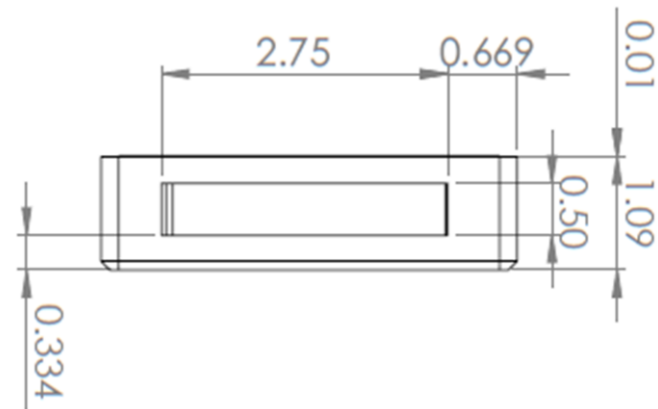

Fig. 8: Front Face Slot
- 3) Orient the box to its Front face. Locate the slot, shown in Fig. 8.